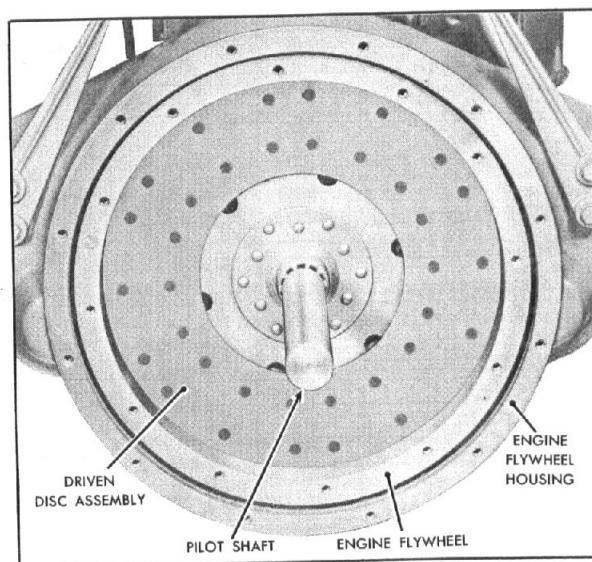

Fig. 2 - Use of Pilot Shaft in Installing Clutch.
(1) Try cover plate assembly in flywheel before inserting driven disc assembly, so as to make sure it is a free fit in the flywheel.
(2) Install driven disc assembly in the flywheel. Refer to Fig. 2.
(3) Bolt the clutch assembly to the flywheel and screw in each bolt until it contacts cover plate assembly. Then gradually tighten opposite bolts until assembly is drawn tight to flywheel.
(4) Check for proper Dimension "A". See chart on page 8.
(5) Care should be used in installing the transmission to prevent bending or otherwise impairing the disc assembly which will cause clutch drag.
(6) See Par. 9 and chart on page 6 for release travel requirements.
(7) To facilitate the assembly of the transmission to the engine, the use of a spare splined pilot shaft (Fig. 2) to align the driven disc assembly while bolting the clutch in place is essential. The pressure plate end of the driven disc assembly hub has been chamfered to facilitate the insertion of the drive shaft, whereas the flywheel end of the hub is left plain.